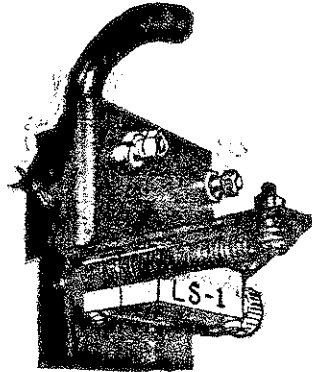

Fig. 1
5. Attach the LS-1 micro switch assembly which includes one 11-260 pin, one 11-258 bracket, two F278 cotter pins, one pusher table switch operator, and one 03-158 micro switch, to the rear pusher table assembly. See Fig. 1 and page six in the parts section.